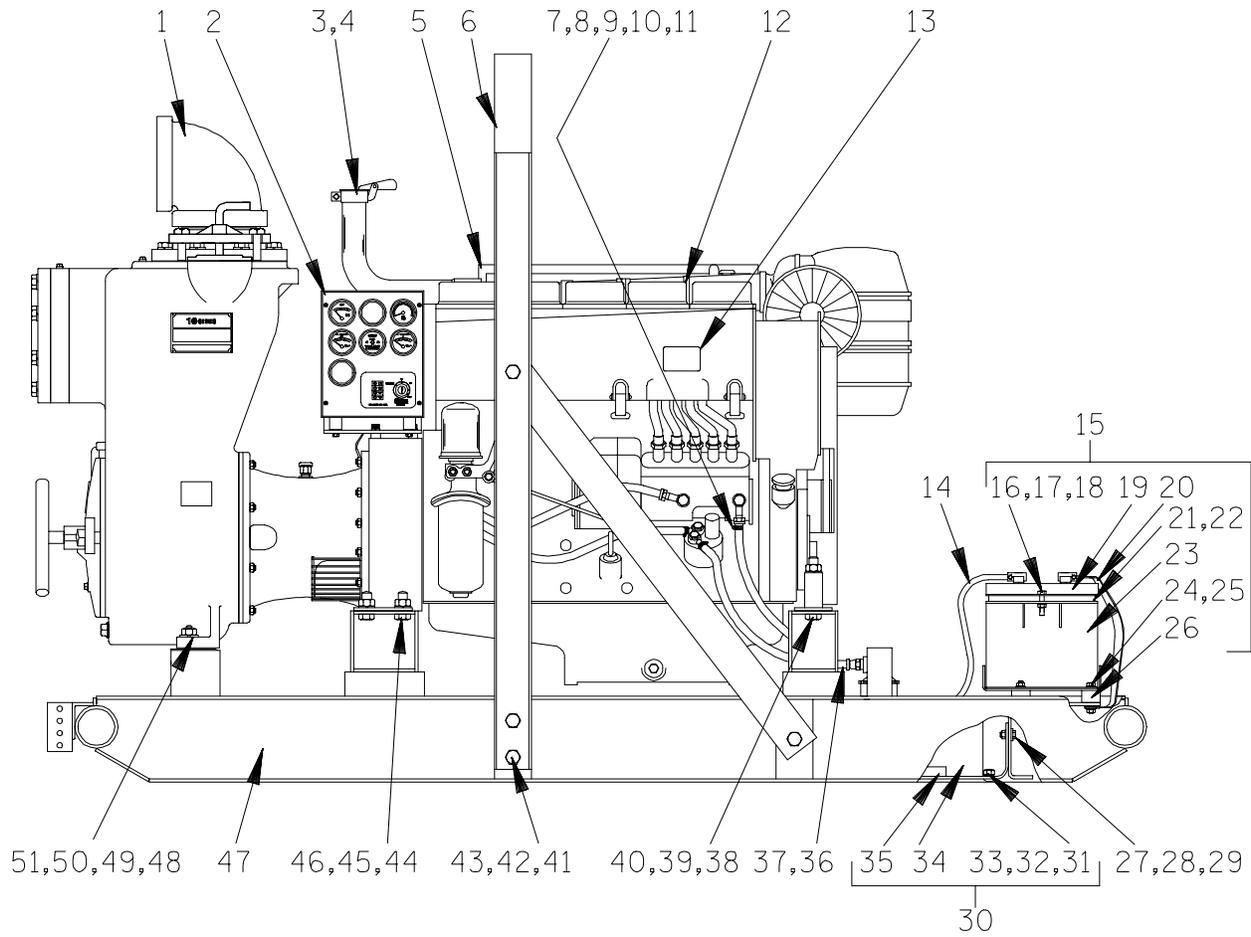

Figure 1. 16C20-F5L Pump Model Assembly
This pump requires little service due to its rugged, minimum-maintenance design. However, if it becomes necessary to inspect or replace the wearing parts, follow these instructions which are keyed to the sectional views (see Figures 1, 2 and 3) and the accompanying parts lists.
Support the pump using a suitable hoist and sling. Remove the hardware (48, 49, 50 and 51, Figure 1) securing the pump casing (1) to the base (47).